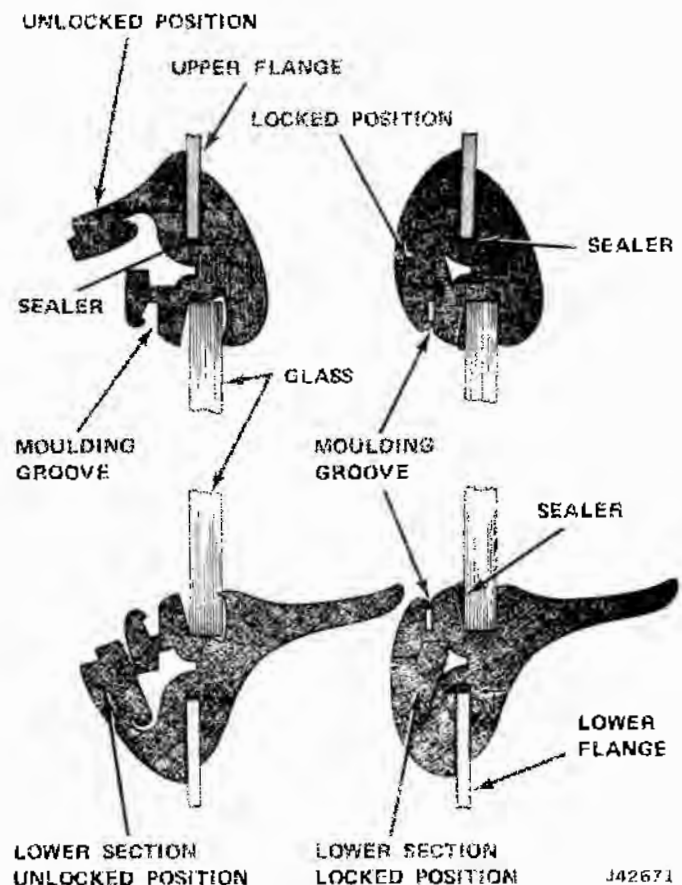

Fig. 17-3 Windshield Weatherstrip Cross-section - Moulding Removed
On others an interlocking type lip is part of the weatherstrip as shown in figures 17-3 and 17-4.
(7) Side mouldings are tipped toward center of vehicle and lifted off.
(8) Remove top moulding.
(9) Slide center moulding clip to left or right and remove bottom mouldings.
(10) This will expose the locking type weatherstrip (fig. 17-3).
applicator, apply a 1/16-inch bead of sealer completely around weatherstrip in flange cavity as shown in fig. 17-3.
(7) Use the wooden wand to lock weatherstrip as shown in the locked position (fig. 17-3 and 17-4).
(8) Using a pressure-type applicator, apply a medium-bodied sealer between the weatherstrip and glass on outside of glass around entire perimeter (fig. 17-3).